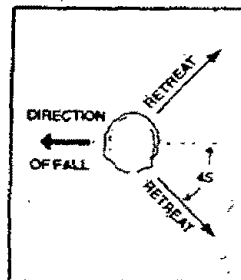

Figure 17
- Plan a clear retreat path to the rear and diagonal to the line of fall. Figure 17.